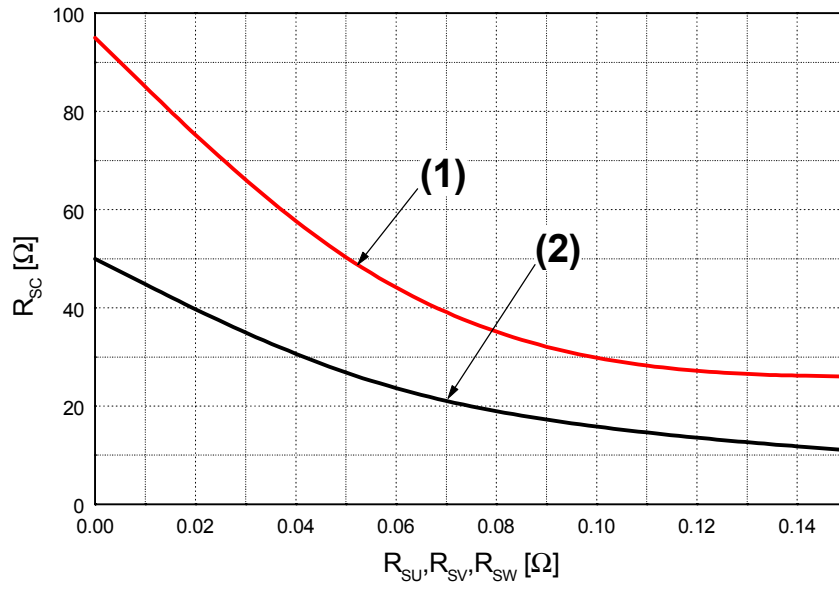

Fig. 6. R_{sc} Variation by change of Shunt Resistors (R_{SU}, R_{SV}, R_{SW}) for Short-Circuit Protection
- Short-circuit current protection is functioning only at the low-sides. It would be recommended that the value of the external sensing resistor (R_{SC}) should be selected around 50 Ω in order to make the SC trip-level of about 15A at the shunt resistors (R_{SU}, R_{SV}, R_{SW}) of 0Ω. For the detailed information about the relationship between the external sensing resistor (R_{SC}) and the shunt resistors (R_{SU}, R_{SV}, R_{SW}), please see Fig. 6.